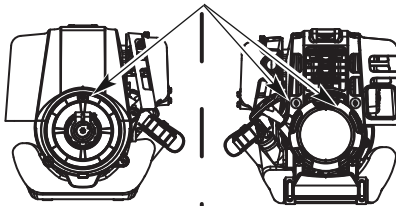

Fig. 27
- Remove the two (2) screws on back of the engine cover and the one on the front of the engine cover with a Flat-head or T-25 Torx screwdriver (Fig. 27).
- Stop the engine and allow it to cool. Remove the two (2) screws on back of the engine cover and the one on the front of the engine cover with a Flat-head or T-25 Torx screwdriver (Fig. 27).